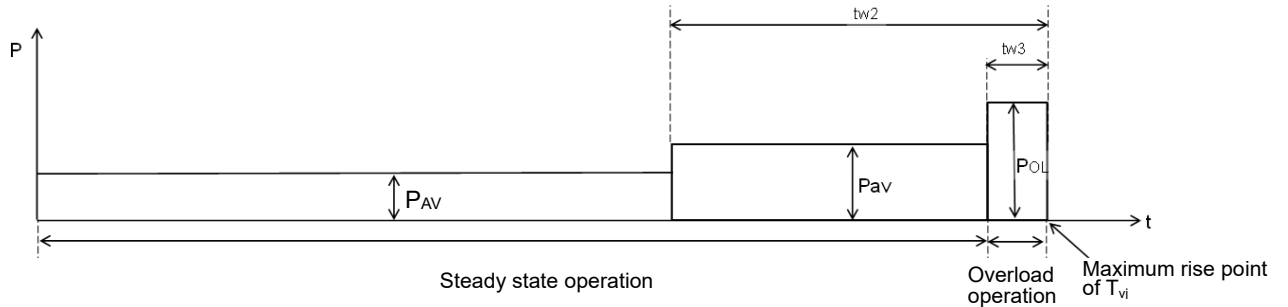

Figure 10-9. Concept of the junction temperature 3
(2) Overload from steady-state operation
In this case, ripple due to P_{OL} must also be taken into consideration. As in the case of (1), perform a square wave approximation as shown in Fig. 10-9.